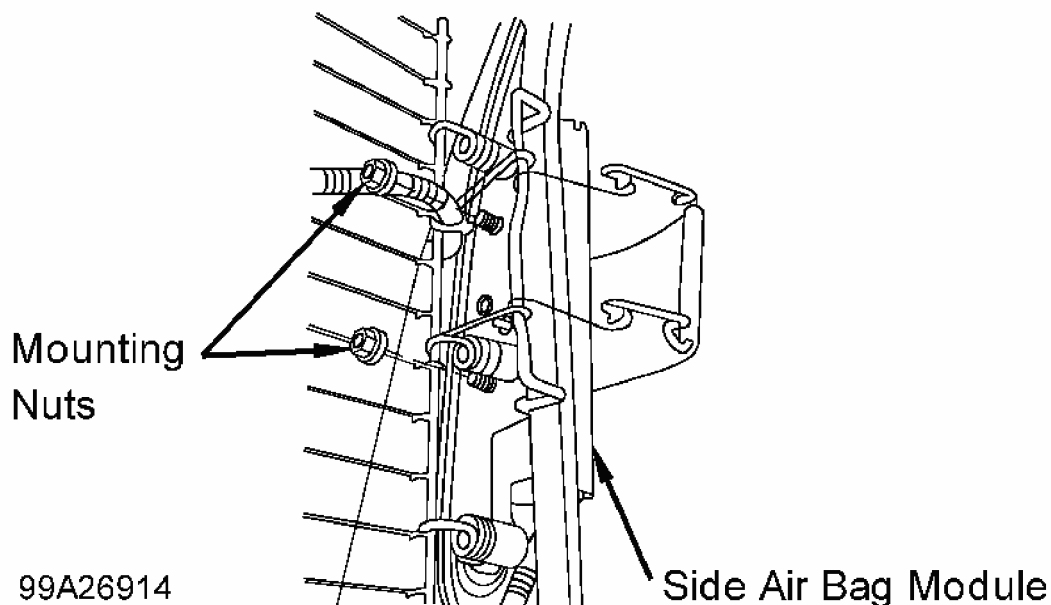

Fig. 27: Identifying Side Air Bag Module
4. Lift and pull out headrest release button. Remove headrest guide retaining screw and headrest guide. Remove seat back cover. Remove and discard side air bag mounting nuts and air bag module. See **Fig. 27** .